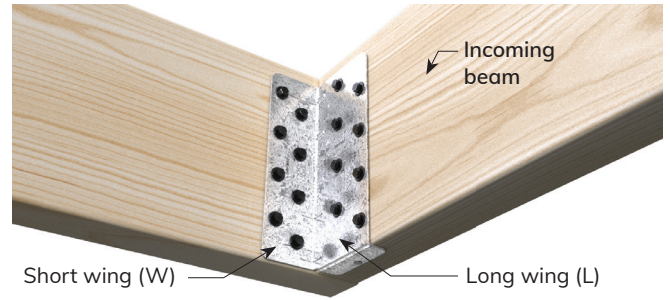

Figure 5: Single split hanger used on one side at corner joint
2. Limit state capacities shall be multiplied by 0.35 when a single Split Hanger is installed on either side of supporting beam only. See Figure 5.
Split Hanger can also be used in other applications. Figure 5 shows an application when a single Split Hanger is applied when two beams are joined together at the corner. Ensure the long wing is fixed to the incoming member to prevent timber splitting at the end.